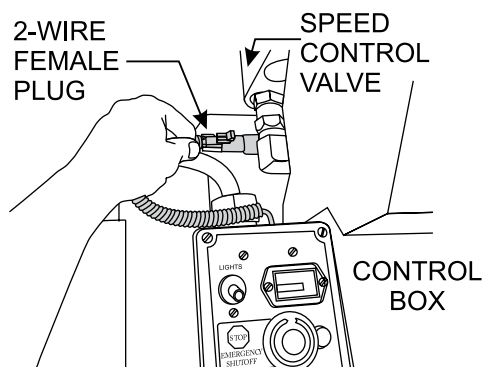

Figure 28. Solenoid Valve Plug Connection
2. Locate the 2-wire female connector plug (Figure 28) at the control box. Insert the this plug into the 2-pin male receptacle located just underneath the speed control valve.